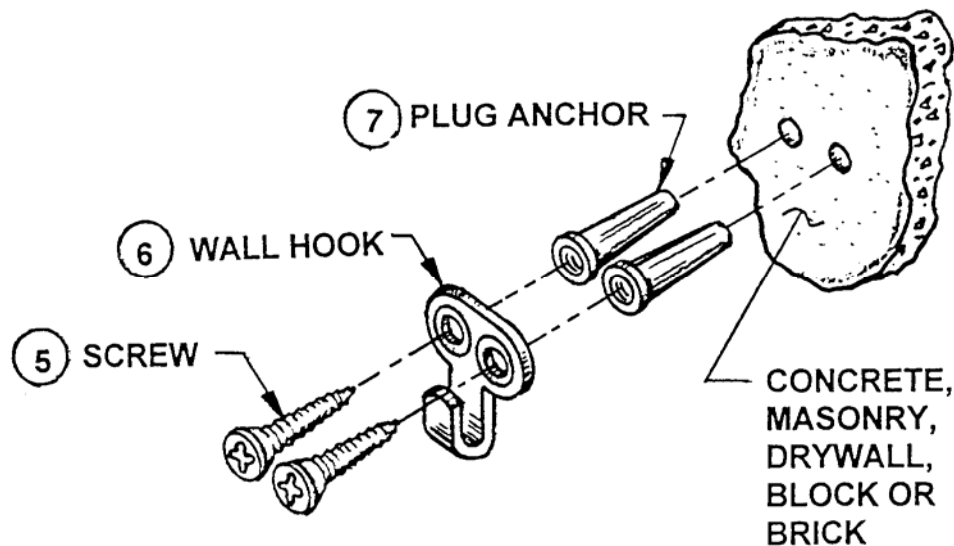

Figure 7: Mounting the Wall Hook
2. Using the wall hook as a template, mark off two mounting holes (see Figure 7).
3. Center punch the two marked holes (see Figure 7).